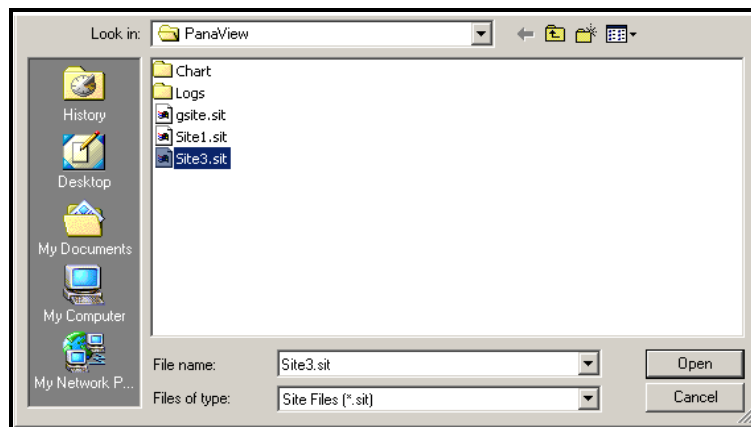

Figure C-15: *Site File Selection*
2. Then click on the *Save Site to Meter* button. A screen opens similar to Figure C-15 below.
3. The *Site File Selection* window (Figure C-15 on page C-12) opens. Highlight a site with the desired settings, and click [Open]. PanaView saves the site in the meter with the new name and the desired settings.
3. The *Site File Selection* window (shown in Figure C-15 on page C-12) opens. Enter the desired site name (now with a .prt suffix) and click [Save]. PanaView displays a text version of the site, as shown in Figure C-17 below.